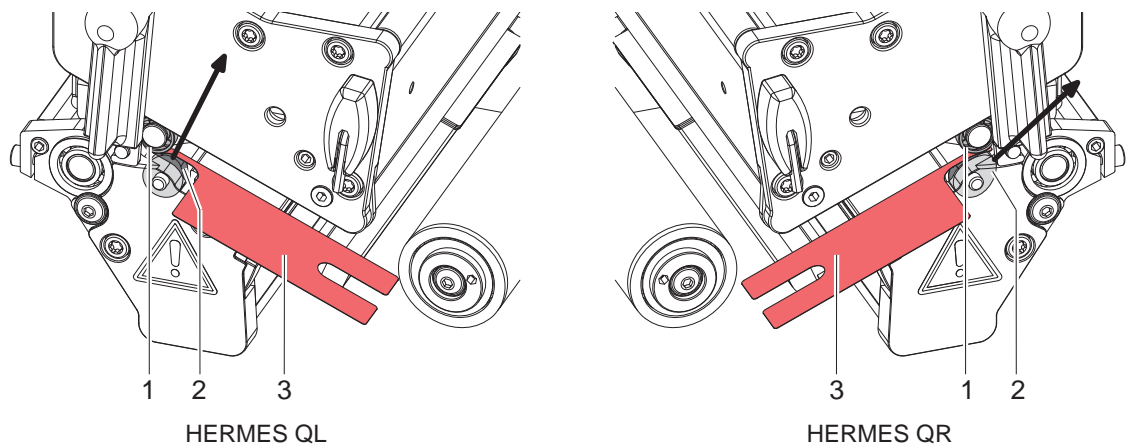

Figure 24 Checking the eccentrics position
- stand on the right of the ball bearing (1) ▷ Figure 24.